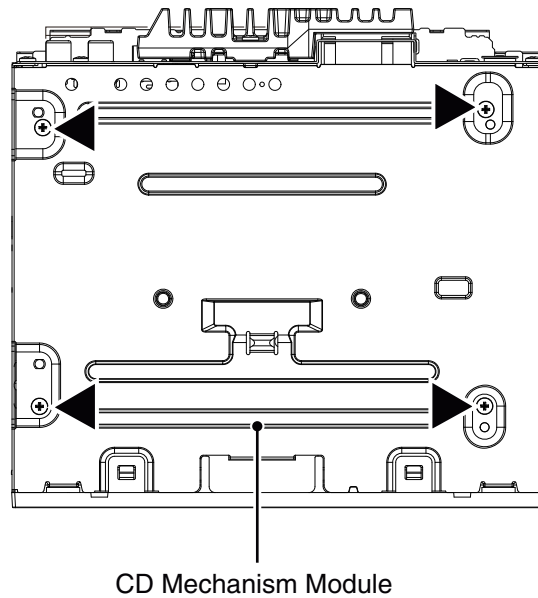

Fig.4
● Attention of removing (Fig.4)
5. Lift the PU unit to disengage it from Part B of the chassis (Fig 4), and remove the PU unit.
(Cautions) When re-installing the PU, be sure to first nip the chassis and the PU unit (Fig 4) at the position B. Also, make sure to fully hook the feeding screw biasing spring (Fig 2a). Please follow the service manual for adjustment of the PU unit after the re-installation.